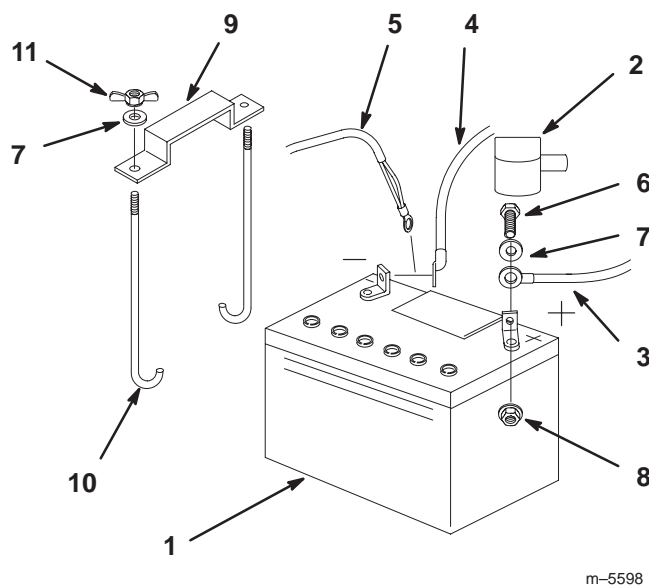

Figure 58
1. Position battery in tray with terminal posts toward the engine (Fig. 58).
4. Secure cables with 2 bolts (1/4 x 3/4 in.), 2 washers (1/4 in.), and 2 locknuts (1/4 in.) (Fig. 58).
6. Secure battery with J-bolts, hold down clamp and 2 washers (1/4 in.), and 2 wing nuts (1/4 in.) (Fig. 58).
3. First disconnect the negative battery cable and ground wire from the negative (–) battery terminal (Fig. 58).
4. Slide the red terminal boot off the positive (red) battery terminal. Then remove positive (red) battery cable (Fig. 58).
5. Remove both wing nuts (1/4 in.) securing the battery clamp (Fig. 58).